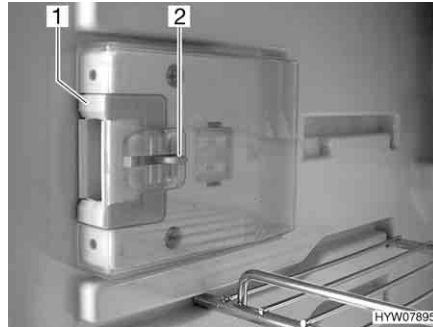
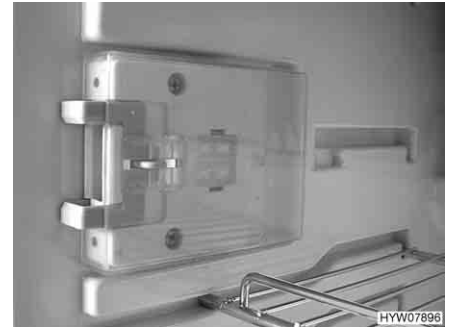

Fig. 182 Locking device in normal position
Fig. 183 Locking device in ventilation position
- Press down the unlocking device (Fig. 182,2).
- Push locking device (Fig. 182,1) forwards (Fig. 183).